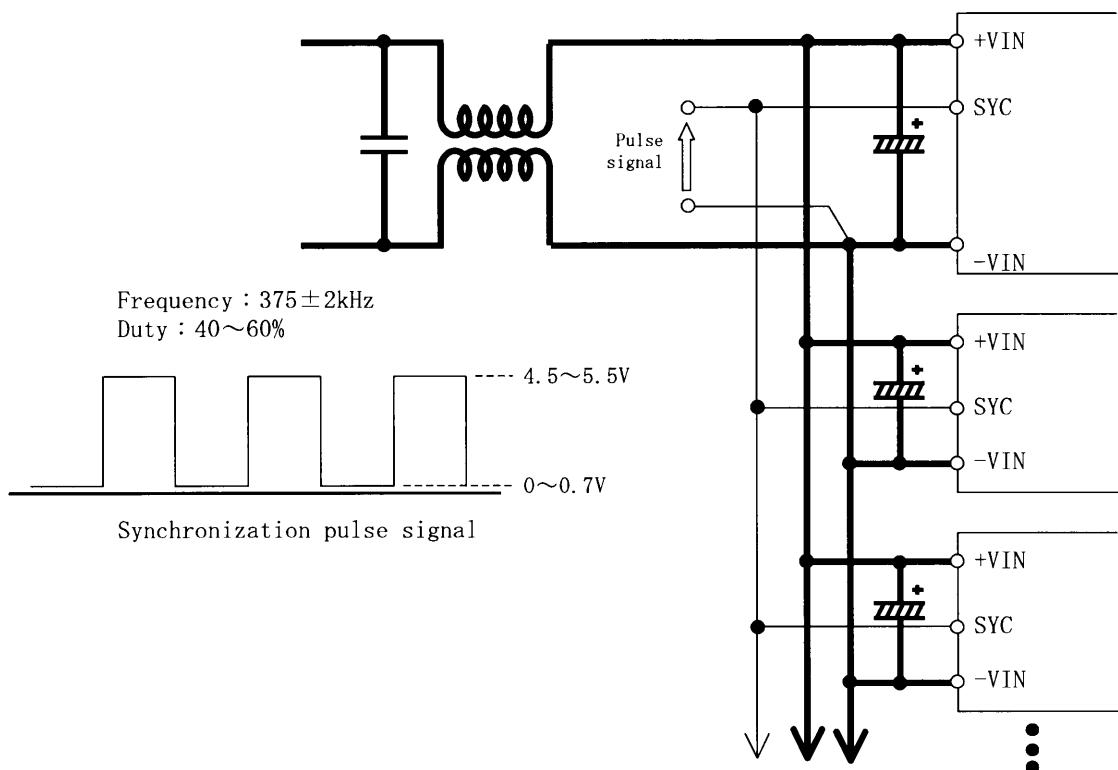

Fig. 2.9 Connecting method of synchronous operation
Apply the synchronization pulse signal as shown in Fig. 2.9, and DBS700 can operate synchronously. If this operation is not required, short SYC and -VIN. The maximum number of synchronous operation should be less than 4 pieces.
SYC端子を図2.9のように接続し、同期パルス信号を印加することで同期運転が可能。同期運転台数は、
- 3) Avoid applying in the terminal SYC other than the signal shown in Fig. 2.9.
SYC端子へ図2.9で示した波形以外の印加は避けること。